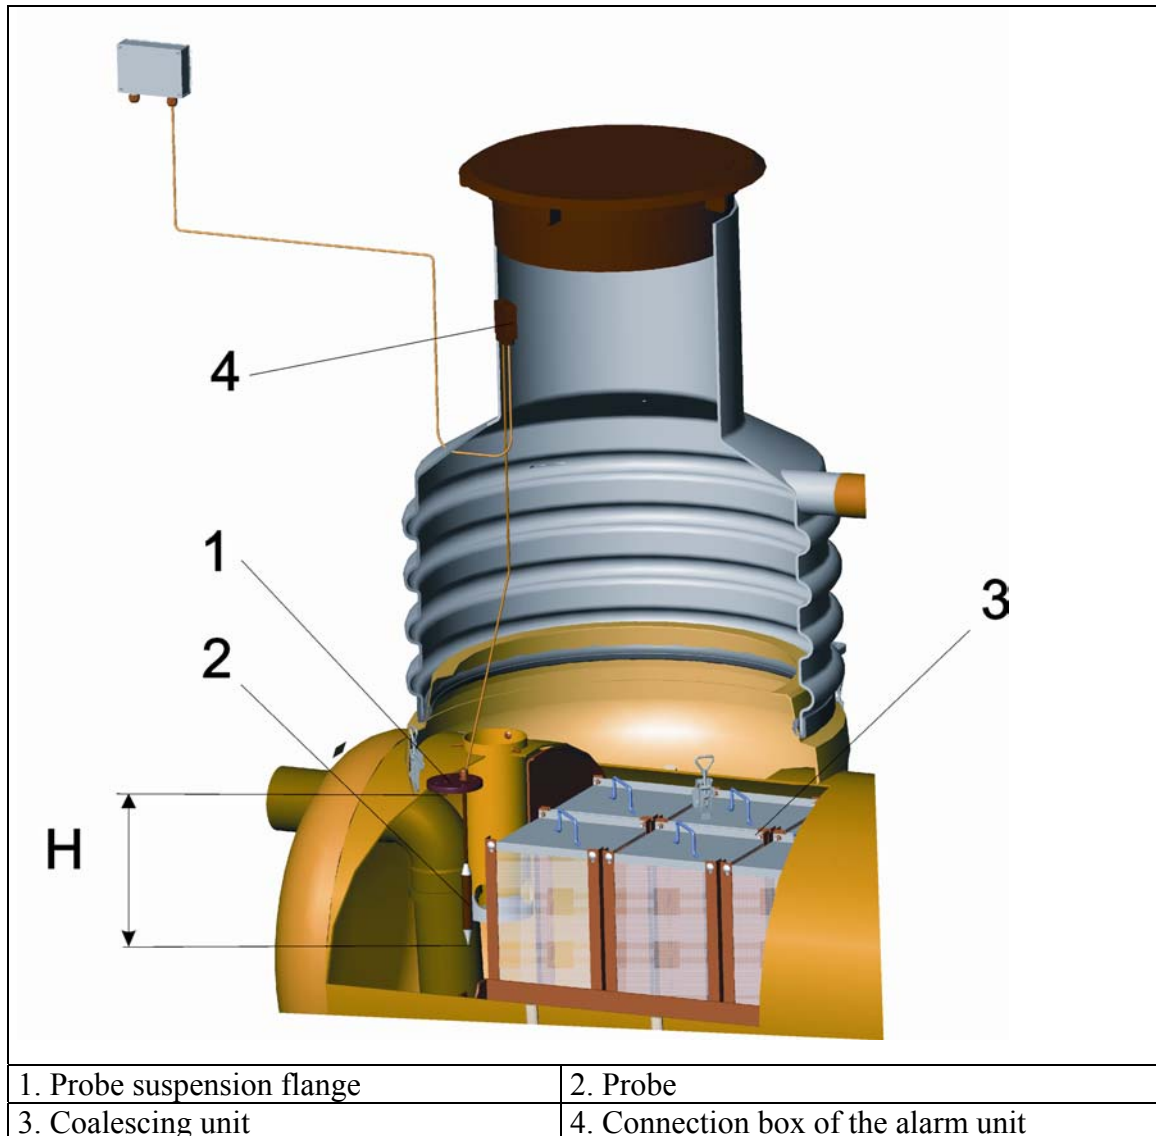

Figure 5. Probe adjustment distance H.
1. Check and adjust the distance H between the tip of the probe and the suspension flange (see figure 5) according to table 2.
3. Lower the probe, until it hangs by the $\varnothing 75$ mm hole on the separator body (see figures 5 and 6).